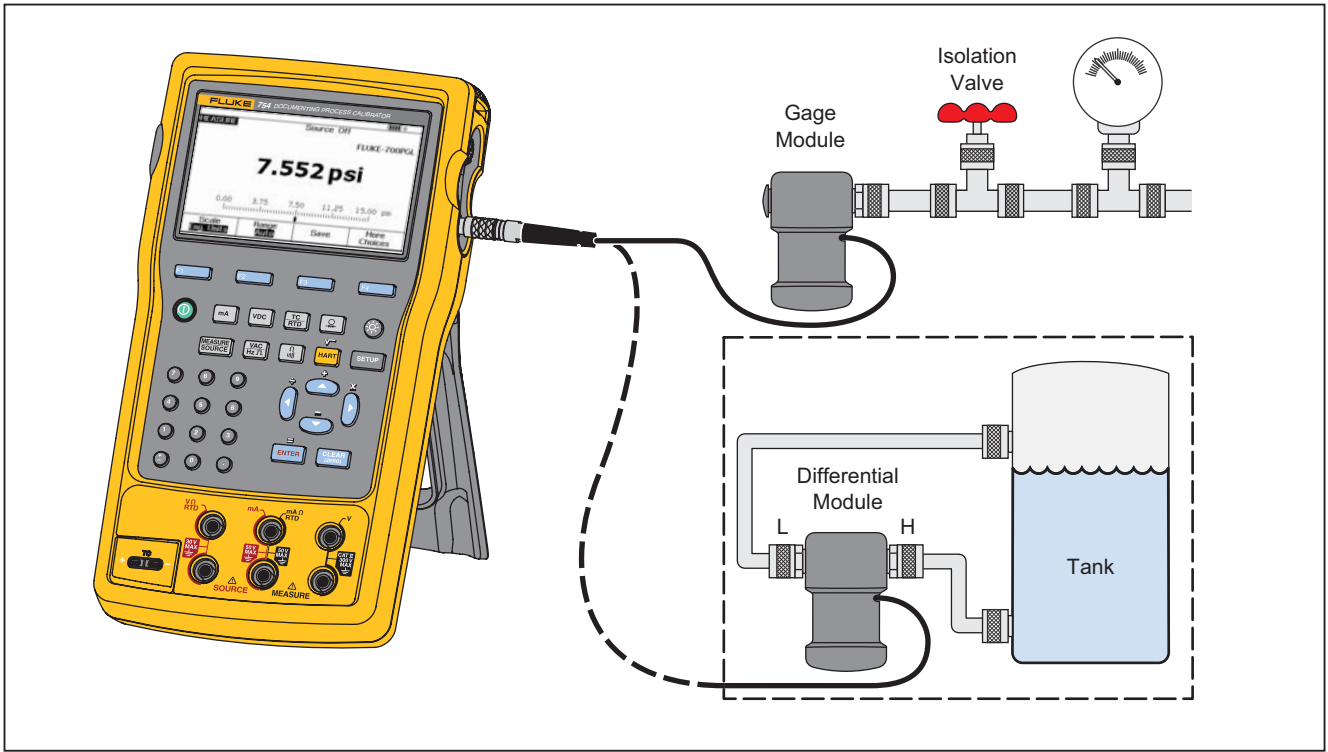

Figure 14. Pressure Measurement Connections
Connect a pressure module to the Product as shown in Figure 14. The threads on the pressure modules accept standard 1/4 NPT pipe fittings. Use the supplied 1/4 NPT to 1/4 ISO adapter if necessary.
7. Attach the RTD to input jacks as the display or Figure 14 shows. Use the supplied jumper between the mA Ω RTD MEASURE low jack and the V MEASURE low jack as shown if using a 3-wire connection.